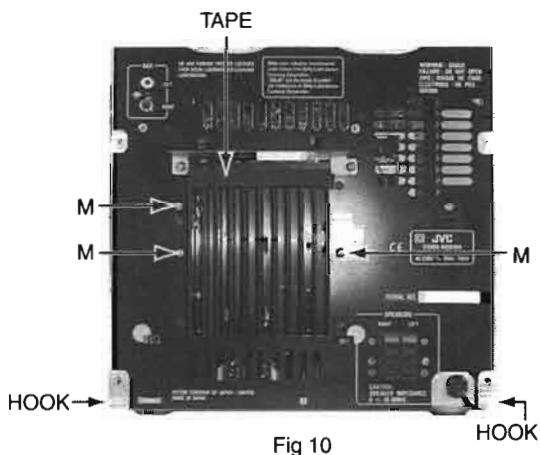

Fig 10
3. Remove three screws M on heat sink and mecha plate fastening in rear panel. (See Fig.10)
4. The tape pasted to the heat sink is peeled off. (See Fig.10)
5. Both sides hook remove and rear panel is removed. (See Fig.10)